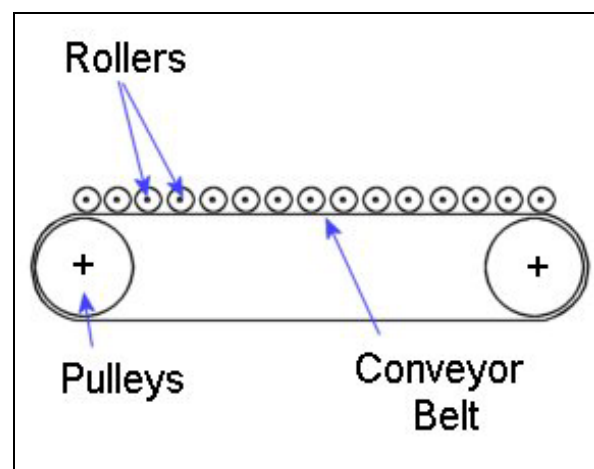

Figure 7. Live Roller Conveyor.
**Live Roller** conveyors are identical to the roller conveyor; however, the difference is that instead of using a drive pulley to move the conveying surface, each roller is powered to rotate, thus moving the material. Roller rotation is generated either by a conveyor belt (Figure 7) riding underneath the rollers, or by each roller being driven by its own drive belt.